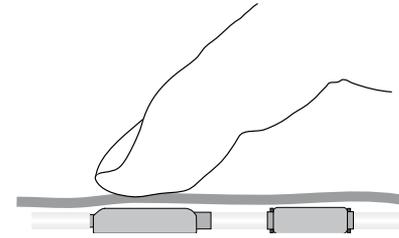

Fig. 14: Locating the valve
1. The valve is located under the skin (fig. 14).